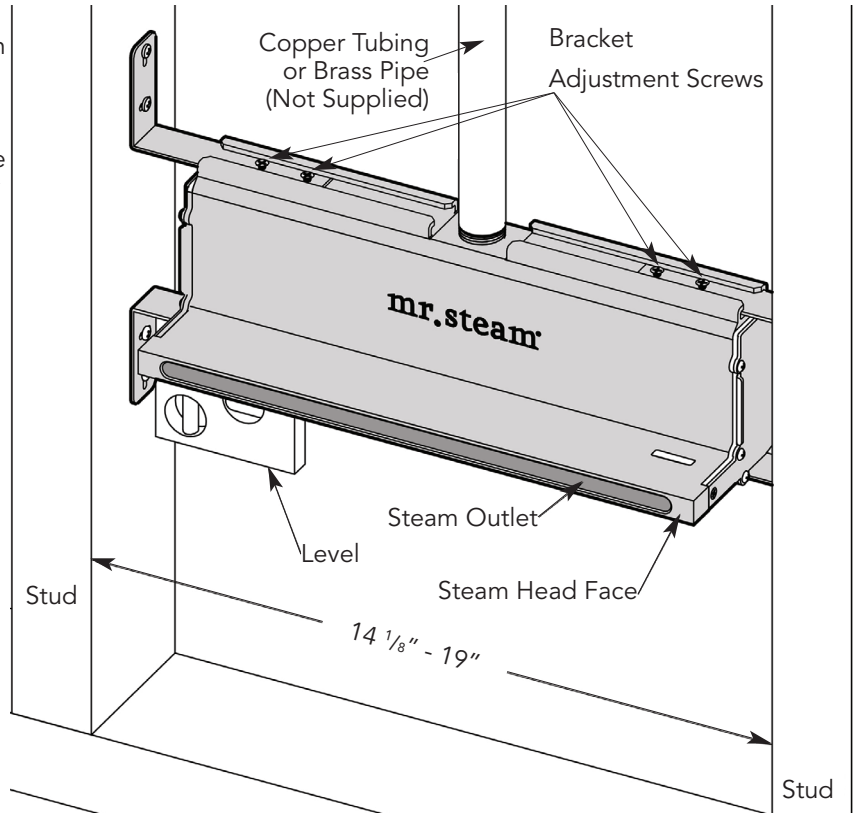

Figure 3
**STEP 3.** Position the steam head between 2 properly spaced studs. Extend the adjustable brackets as required so the steam head fits snugly between two studs. Use a level to ensure the steam head is level (see Fig. 3). Tighten the eight bracket adjustment screws (supplied).